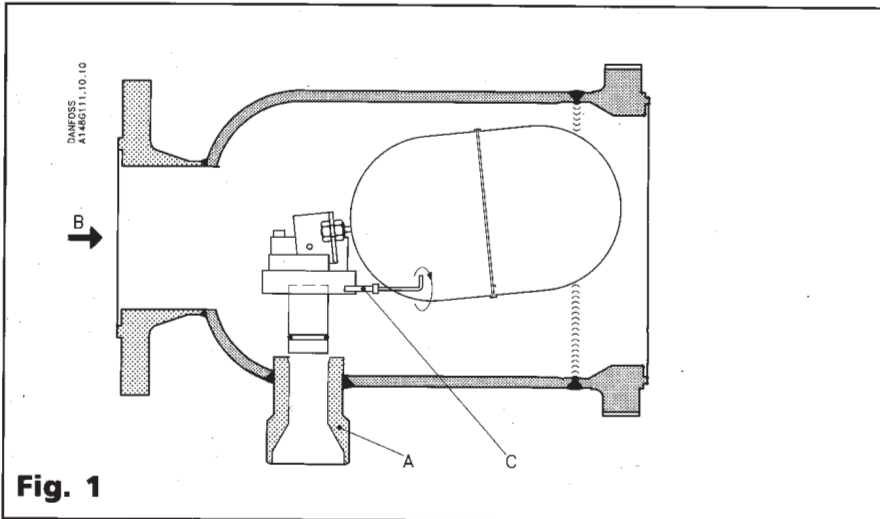

Fig. 1
Mount the float valve horizontally with the outlet branch pos. A (fig. 1) vertically down-wards.
The flow direction has to be from the flanged inlet as indicated with the arrow pos. B (fig. 1)
- Unscrew the screw pos. C (fig. 1) and lift up the float assembly from the outlet.
NB! When demand is heavy at low temperature operation, we recommend to check the velocity in the outlet branch. If necessary the diameter of the pipe which is welded on to the outlet branch pos. A (fig. 1) can be increased.